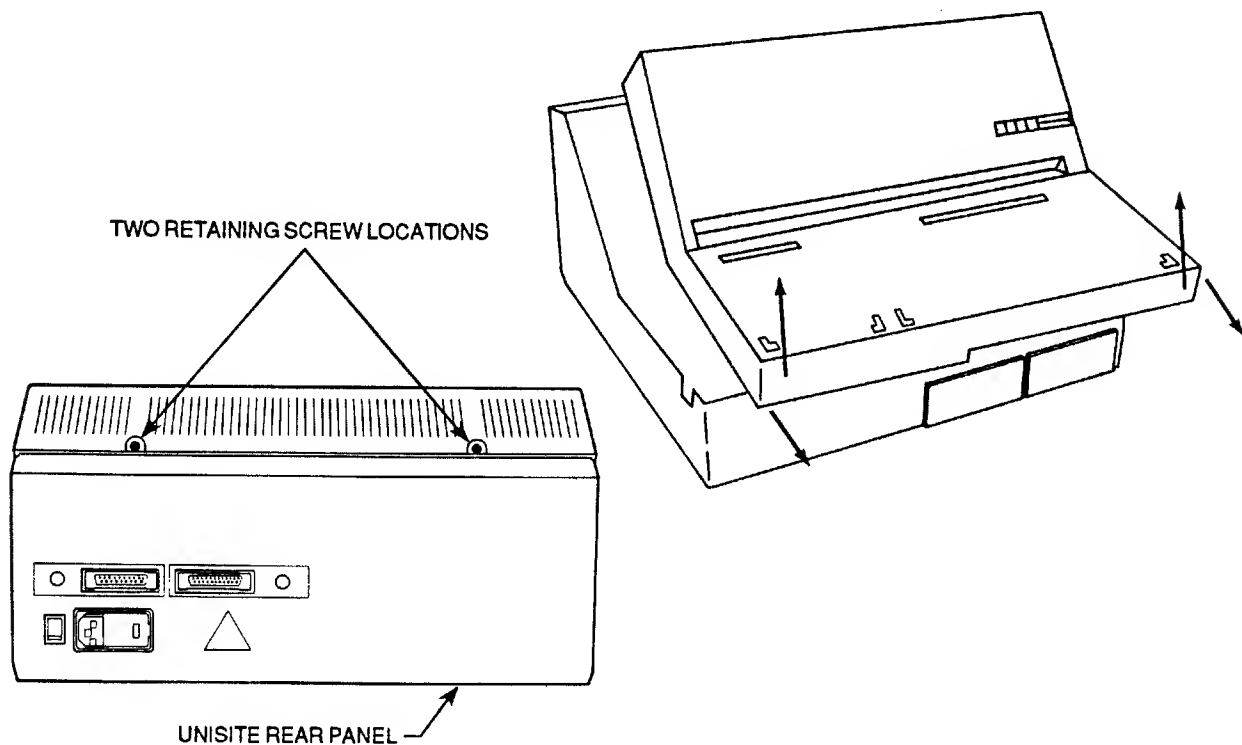

Figure 2-1. Removing UniSite's Top Cover
5. Using the philips-head screwdriver, remove the two retaining screws, shown in figure 2-1.